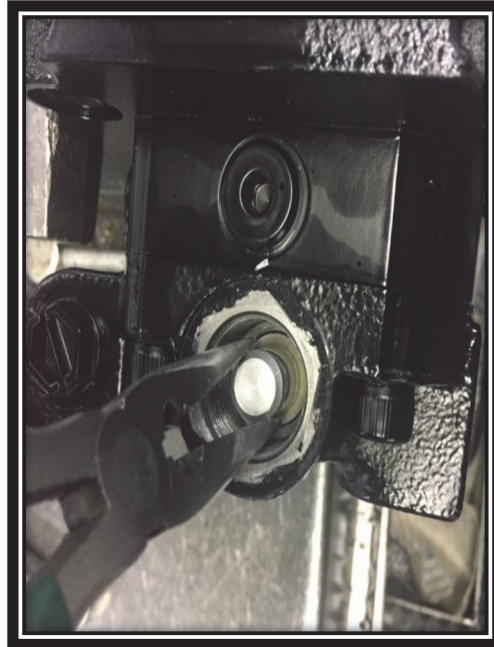

FIG. 4-1
5. Once the spring is removed, use the Needle Nose Pliers to remove the spool shown. **NOTE: It is important to reference that the position of the spool is with the orifice facing away from you.** Refer to FIG. 4-1.